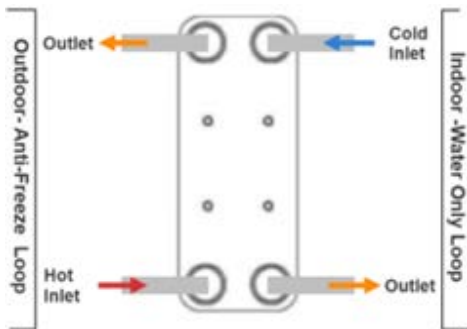

Figure 8-1: Plate Heat Exchanger Piping
9. Heat exchanger should be piped in counter-flow orientation as shown in Figure 8-1.